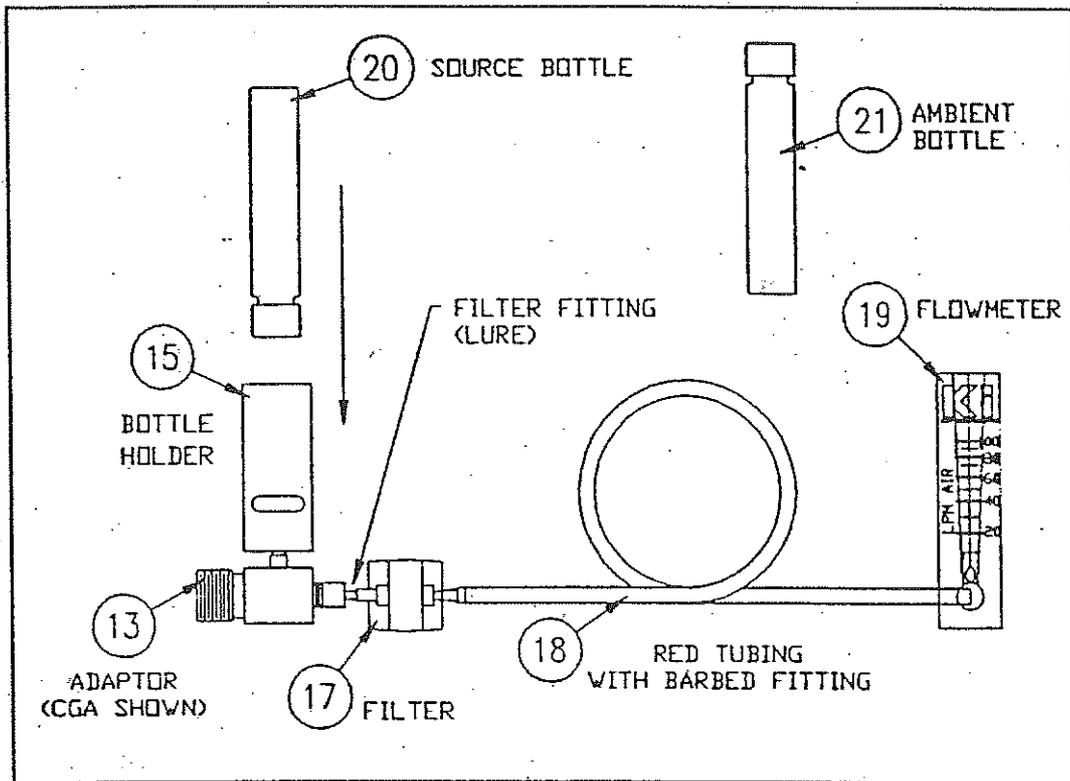

FIGURE 14-8 SOURCE BOTTLE APPLICATION
- Insert the numbered source bottle (20) (blue capped) into the bottle holder (15) by gently pushing the bottle straight down (Figure 14-8).